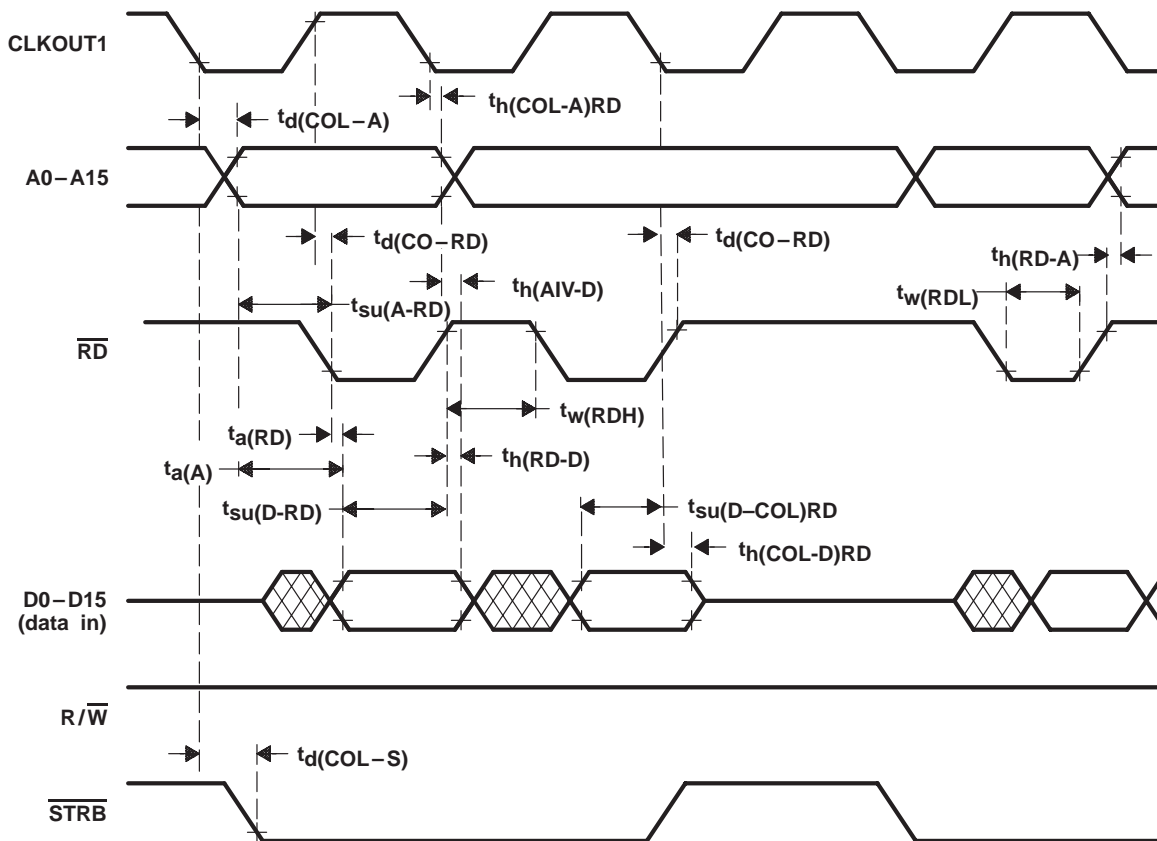

Figure 9. Memory Interface Read Timing
**switching characteristics over recommended operating conditions (see Figure 9) [ $H = 0.5t_{c(CO)}$ ]**
**timing requirements over recommended operating conditions (see Figure 9) [ $H = 0.5t_{c(CO)}$ ]**